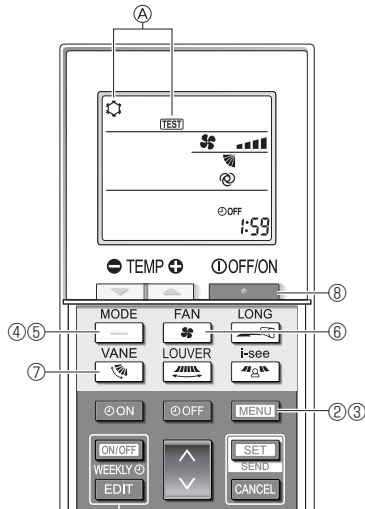

Fig. 6-9
- ③ Press the **MENU** button.
- ④ **TEST** and the current operation mode are displayed. (Fig. 6-9)
- ④ Press the **COOL** button to activate cool mode, then check whether cool air is blown out from the unit.
- ⑤ Press the **HEAT** button to activate heat mode, then check whether warm air is blown out from the unit.
- ⑥ Press the **FAN** button and check whether the fan speed changes.
- ⑦ Press the **VANE** button and check whether the auto vane operates properly.
- ⑧ Press the **STOP** button to stop the test run.